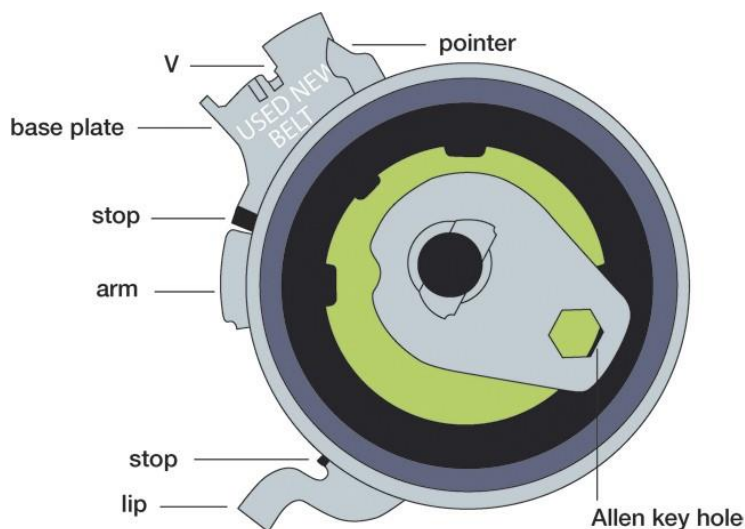

Fig. 2
8. Turn the tensioner (with the Allen key) anti-clockwise (while holding the bolt in place) till the pointer is in line (not passing) with the right hand side of the base plate (fig. 2).